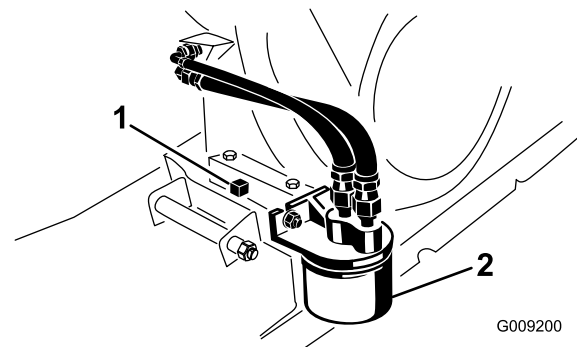

Figure 29
5. Remove the drain plug (Figure 29) and let the oil flow into a drain pan. When the oil stops, install the drain plug.
2. Remove the existing oil filter (Figure 29).